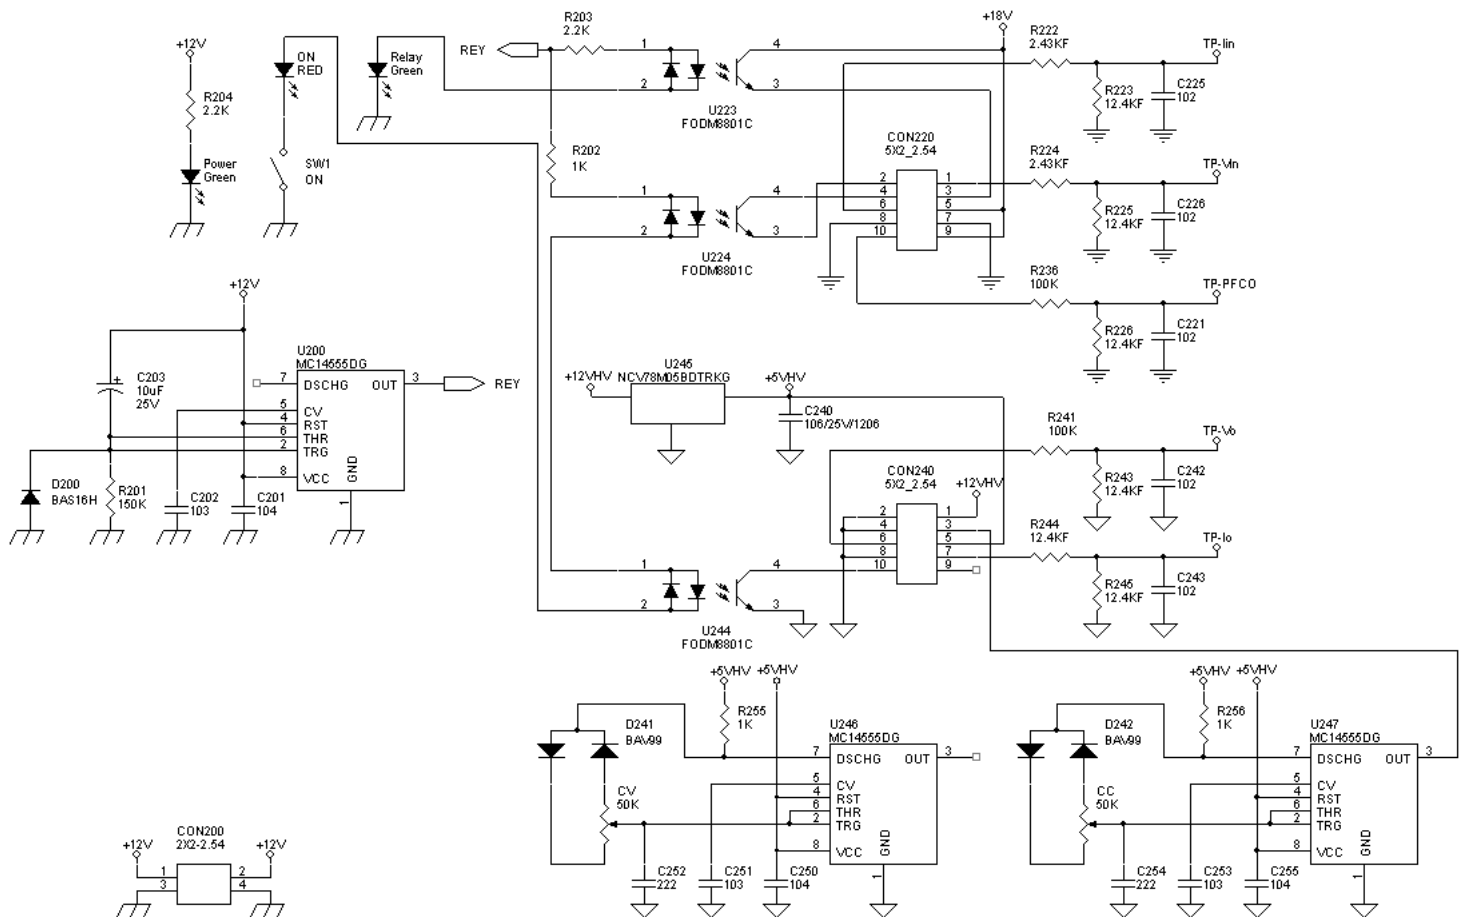

Figure 5. Schematic of the manual control interface board.
In this design, we put the interface circuits on an add-on board for the flexibility. The features of the full function interface board will include the (1) Can communication with the BMS system to report the information like: Input voltage, Input current, Output voltage, Output current, Bus voltage, Output miss-connection, LV voltage, Temperature of the Bridge Rectifier, Temperature of the PFC MOFETs and Diodes, Temperature of the PFC Inductors, Temperature of the LLC transformers, Temperature of the LLC Diodes. (2) Can communication with the BMS to receive the following command: Power-up, Output voltage, Output current, Power off. (3) Output the CC, CV PWM signals and the power-on and relay-on signals to the main board. But, the full function interface board is not ready so far. We use a simple manual control board instead of the full function one. Figure 5 show the schematic of the manual control interface board.